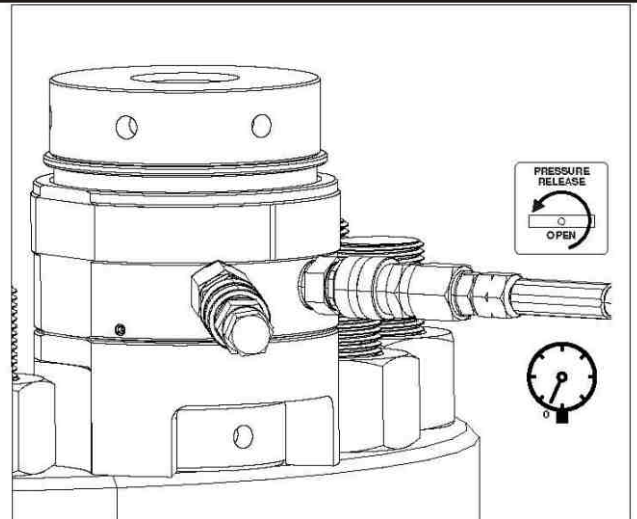

Figure 4.3-1 Pressure Released After Turning Down Nut
- 4.3.10 Release the hydraulic pressure by SLOWLY opening the pump pressure release (return to tank) valve. Verify that the oil pressure gauge indicates zero (0) psi/bar. See Figure 4.3-1.
- 4.3.21 Release the hydraulic pressure by SLOWLY opening the pump pressure release (return to tank) valve. Verify that the oil pressure gauge indicates zero (0) psi/bar. See Figure 4.3-1.